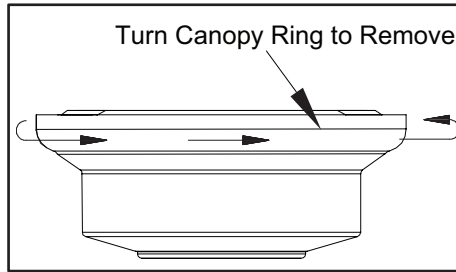

Figure 8
1. Remove the canopy from the canopy by turning the ring counter-clockwise until it unlocks. (Figure 8)